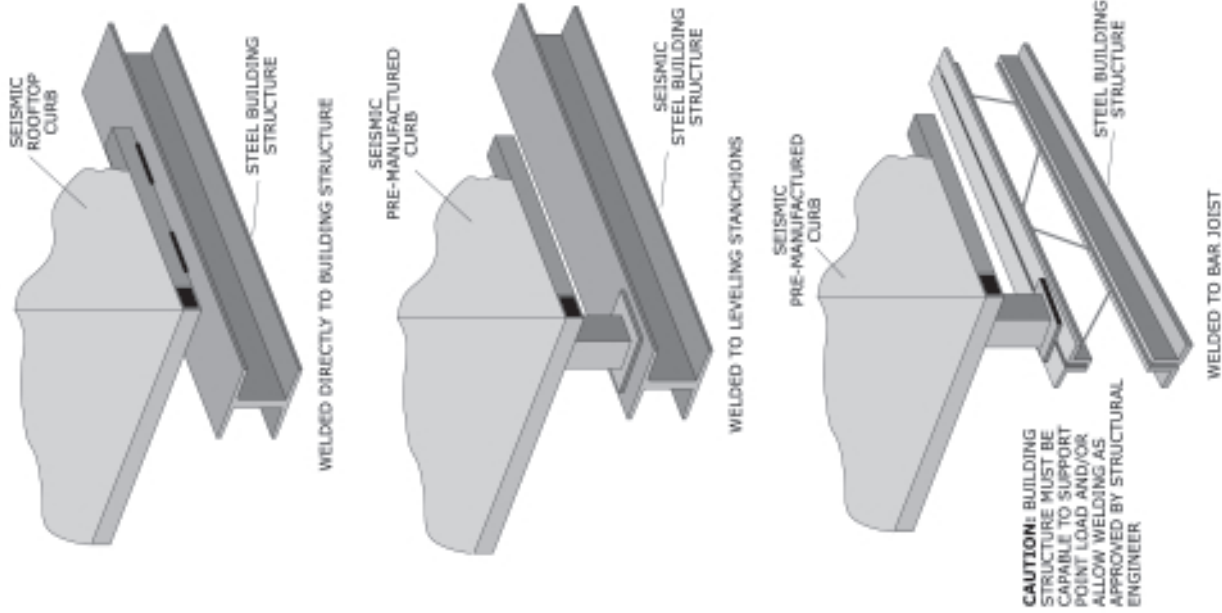

Figure 89: Pre-manufactured curb attached to the building structure.
- To the building structure, see Figure 89 (page 54).